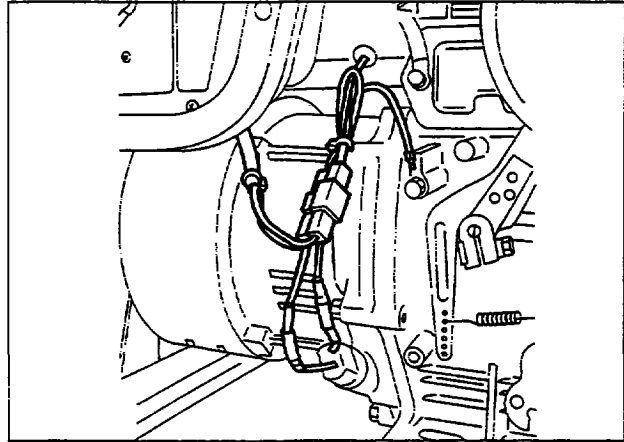

Fig. 10-2
(3) Disconnect the connectors on the wiring between from the control box and the engine. (See Fig. 10-2.)